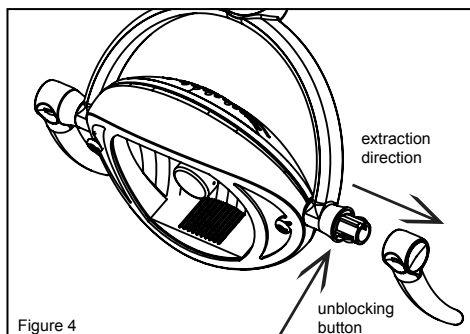

Figure 4
6. Attach the handles inserting hooks into handle (see Figure 4). There are two possible configurations (side view):